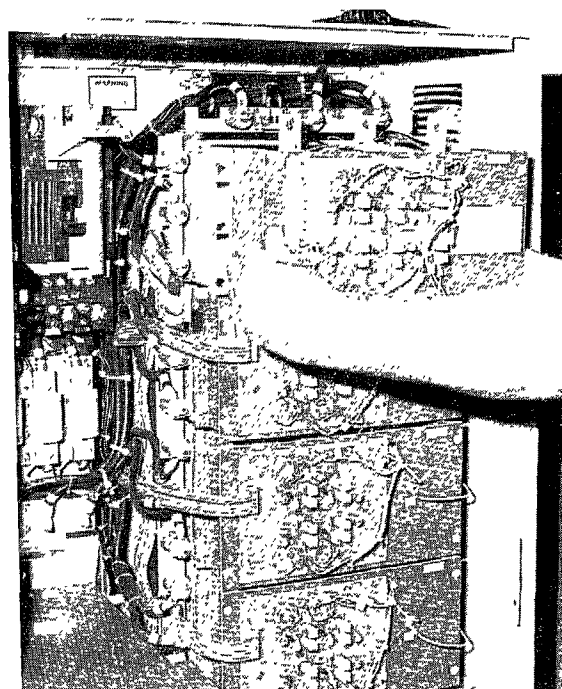

FIGURE 10
6. Carefully pull module out of the rack using the red plastic insulation cover in front of the module (See Fig. 10).